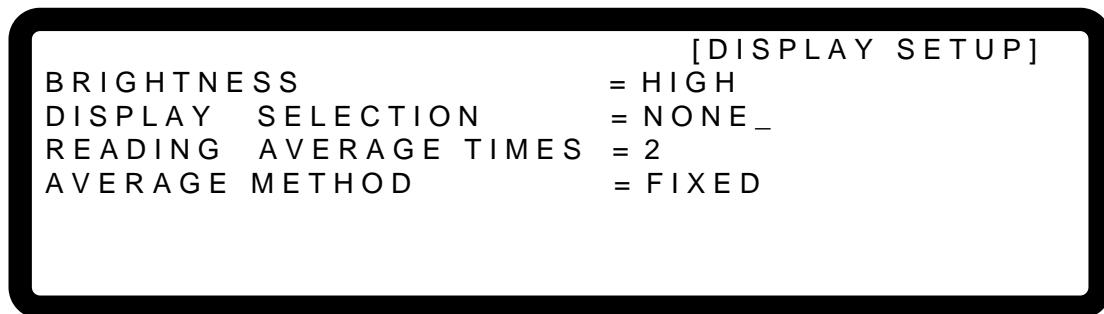

Figure 3-61
1. In the Config setting page, press “**4**” to display the screen then “**ENTER**” to enter into DISPLAY SELECTION as shown in Figure 3-61.
2. Use the “**←↑**”, “**↓→**” keys to move the cursor to the column to be set as shown in Figure 3-61.
3. Use the numeric keys (**0** - **3**) or the “Rotary” (○) knob to select the desired setting. There are 4 selections on the MAIN PAGE: (1)**NONE**, (2)**V/I LIMIT**, (3)**V/I/P PROTECT** and (4)**V/I SLEWRATE**. The system default is **NONE**.